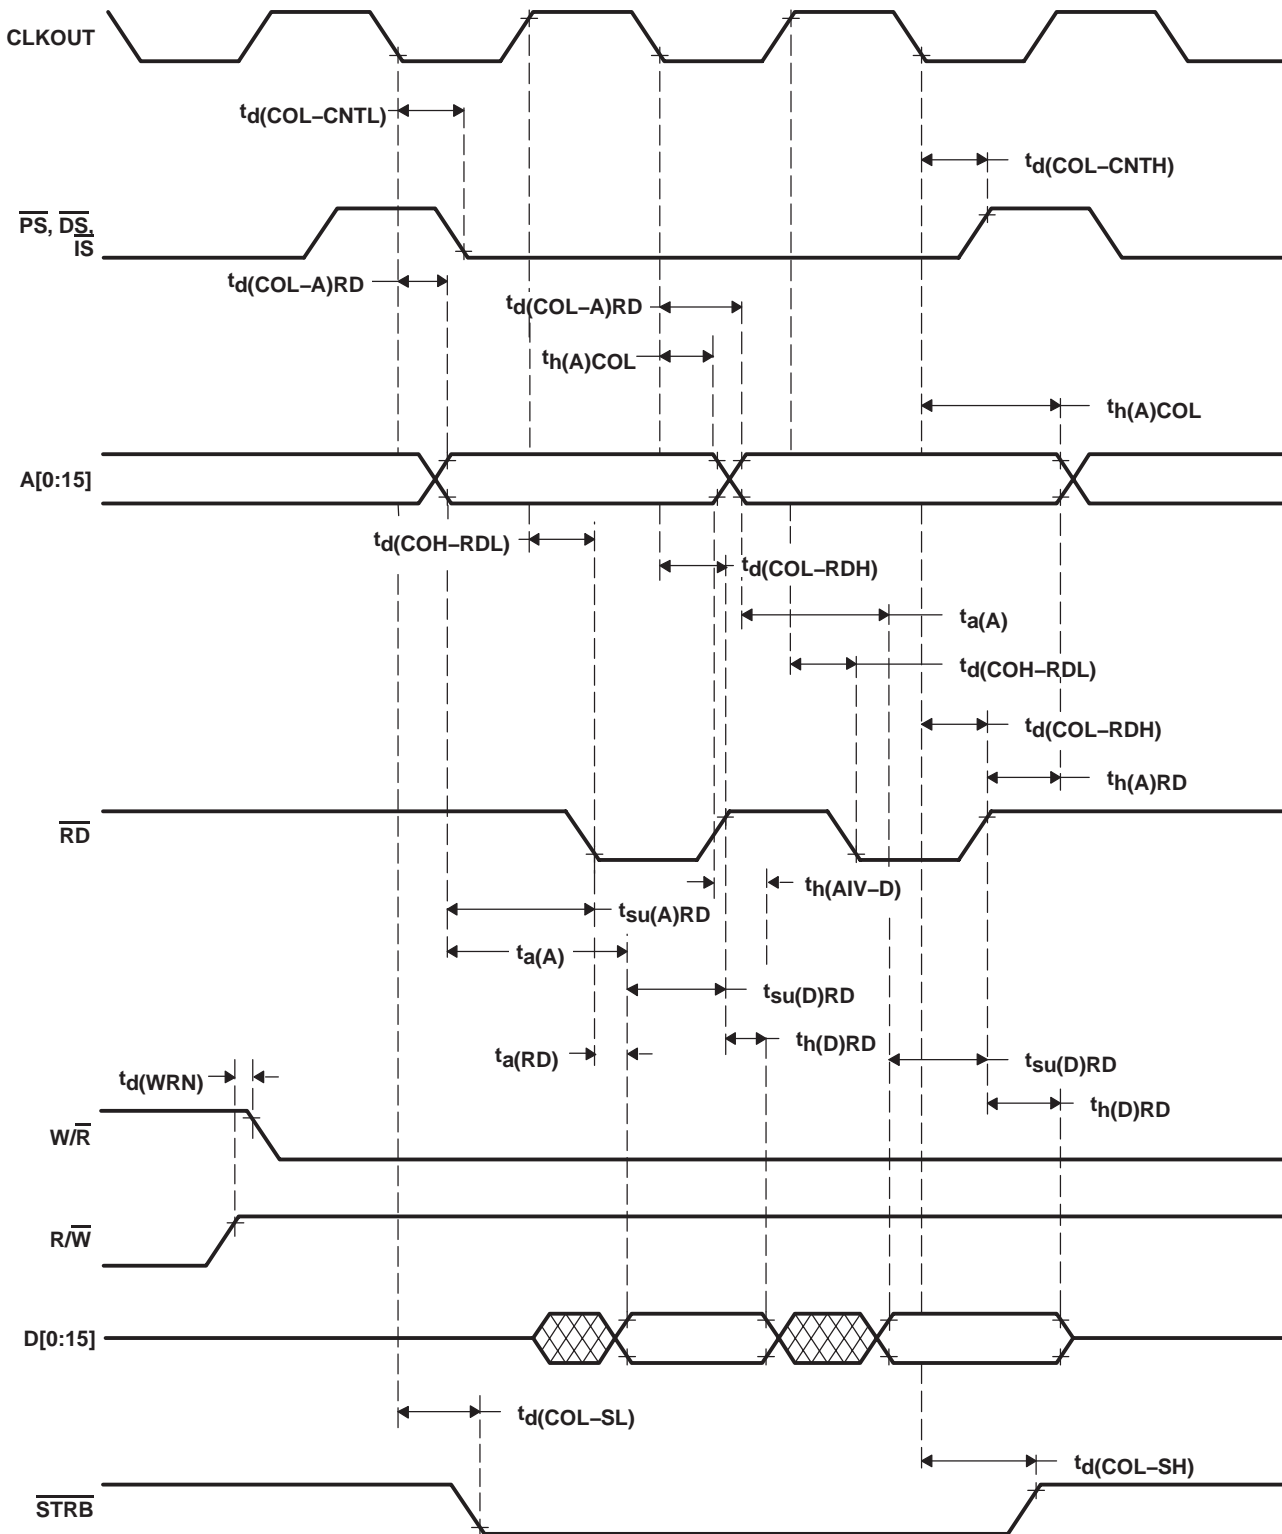

Figure 39. Memory Interface Read/Read Timings
**switching characteristics over recommended operating conditions for an external memory interface read at 30 MHz [ $H = 0.5t_c(CO)$ ] (see Figure 39)**
**timing requirements [ $H = 0.5t_c(CO)$ ] (see Figure 39)**